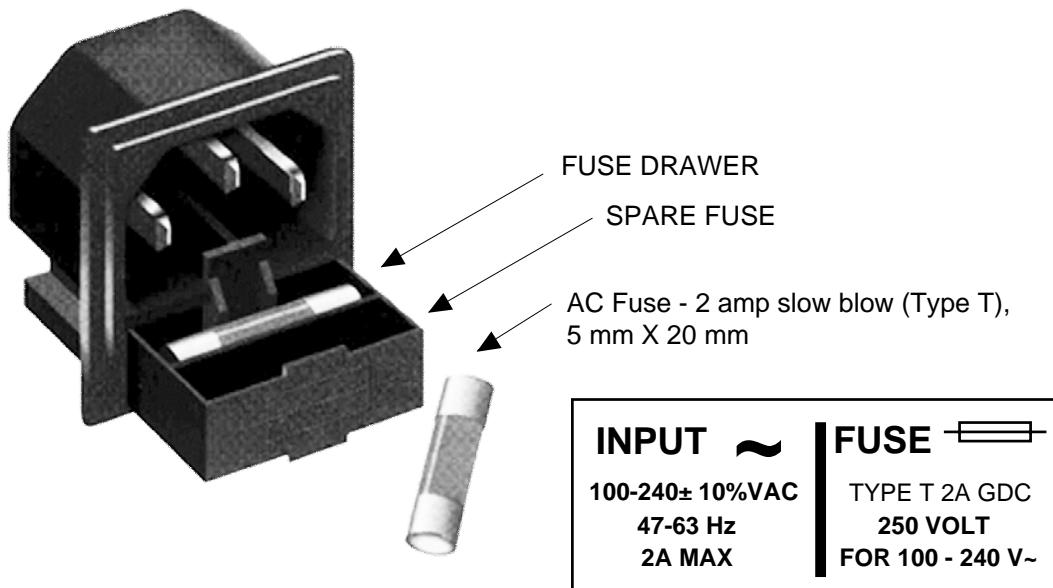

FIGURE 2.3 Fuse Location and Spare Fuse
6. **AC Fuse** - The fuse is a 5 mm X 20 mm, 2 amp slow blow (Type T) and is inserted in the far slot in the drawer below the AC input as shown in Figure 2.3. There is a spare fuse in the near slot. If a fuse continues to open, the power supply is most likely defective.